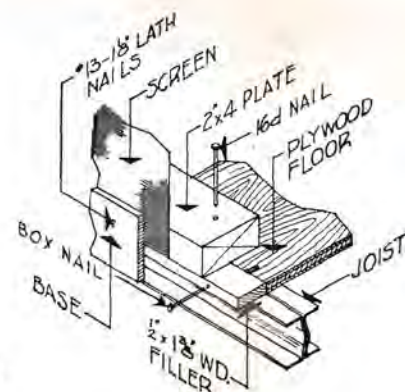

FIG. 4
1. With 10d Box nails, nail the  $\frac{1}{2}$ " x  $1\frac{3}{8}$ " wood filler strip (see Fig. 4,) to edge of plywood floor for the width of the hut. Center metal door sill on centerline of hut and screw to floor with holtite screws.